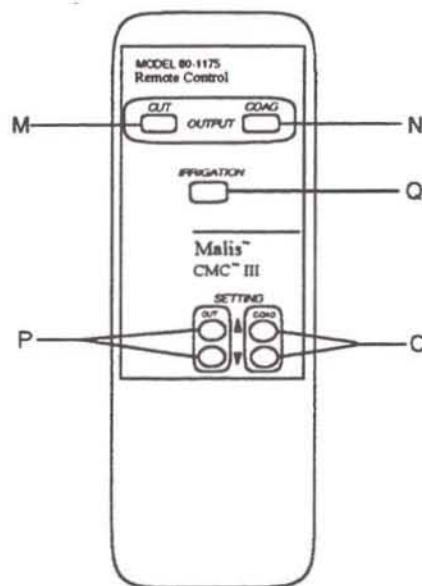

Figure 3. Remote Control (Items M through Q)
5.3 REMOTE CONTROL SET CONTROLS (Figure 3)
When you depress this pedal, cutting power is delivered to the forceps. (The Cut button on the remote control, Item M as shown in Figure 3, also controls this function.)
Coagulation power is delivered to the forceps when you depress this pedal. (The Coag button on the remote control, Item N as shown in Figure 3, also controls this function.)